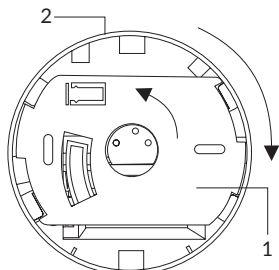

Fig. 2
- 6.1.** Separate the mounting base (Fig. 2, item 1) from the device housing (Fig. 2, item 2) by turning it counterclockwise.